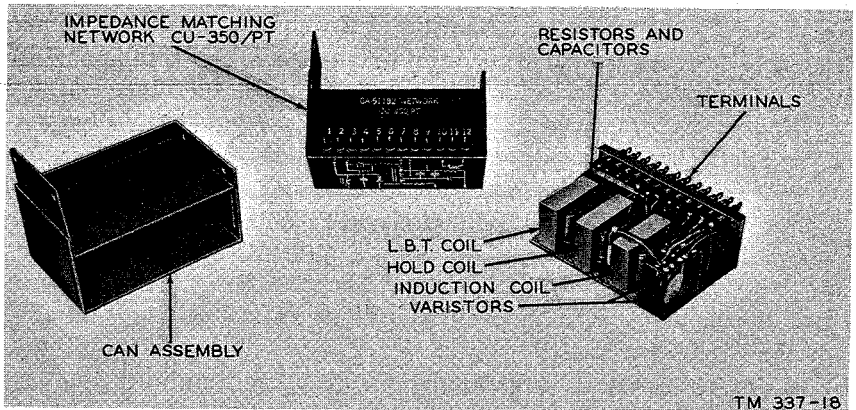

Figure 12. Impedance matching network CU-350/PT.
48. Impedance Matching Network CU-350/PT (fig. 12)